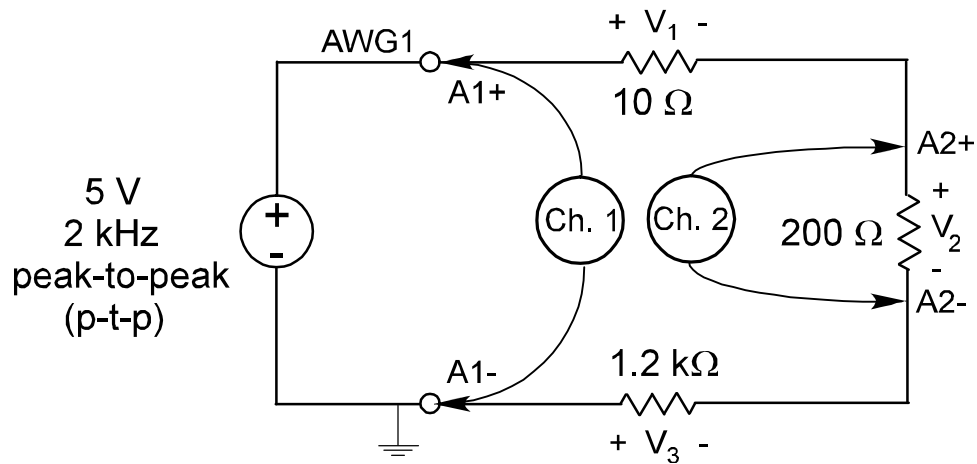

Figure 2 - Circuit Diagram for Voltage Measurement
- 2.3 Adjust the function generator Ch. 1 to give an output of 5 V peak-to-peak, sine wave at 2 kHz, zero degrees phase and zero volts dc off-set. Connect the resistors across AWG1 and ground as shown in figure 2. Display this waveform on Ch. 1 of the oscilloscope by connecting A1+ and A1- across the supply and making selecting A1 DIF (meaning show the difference in voltage between A1+ and A1-). Display the voltage across each resistor on Ch. 2 of the oscilloscope by connecting A2+ and A2- across the resistor and selecting A2 DIF